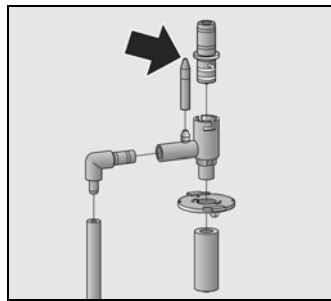

Figure 3-16: Froth Dispenser Components
3. Pull all pieces apart. Remove the piece with the gaskets by turning and pulling it apart. See Figure 3-16.
Take care that the small holes of the single pieces are not clogged (see arrow, Figure 3-16).